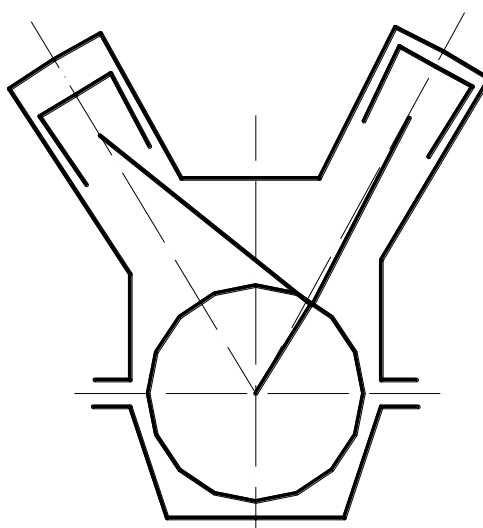
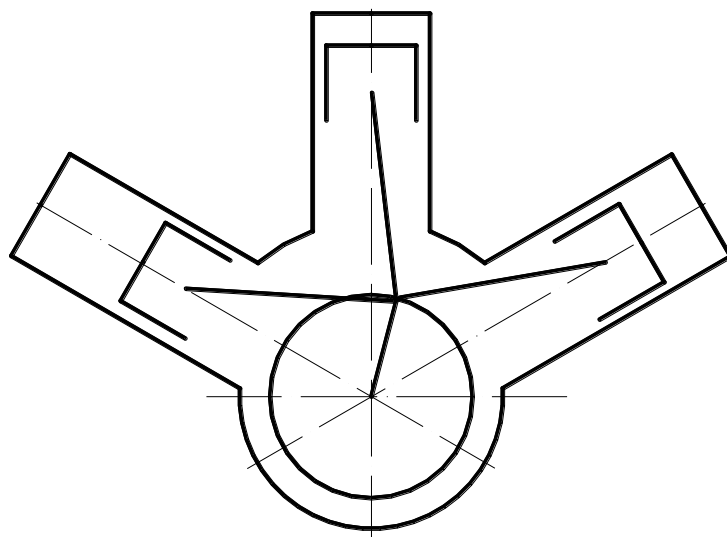
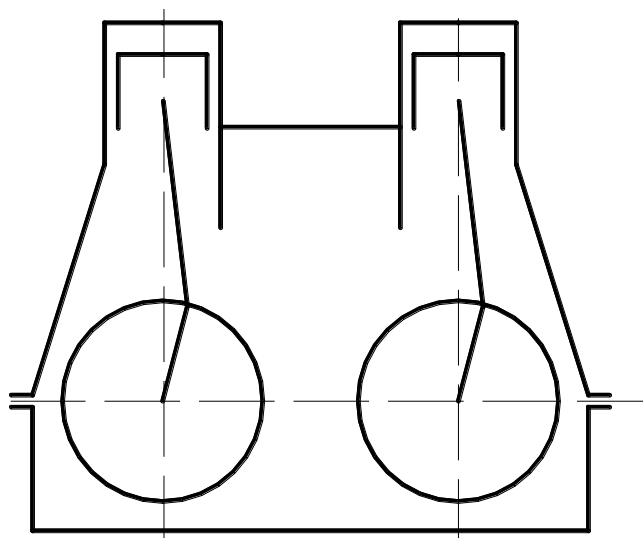
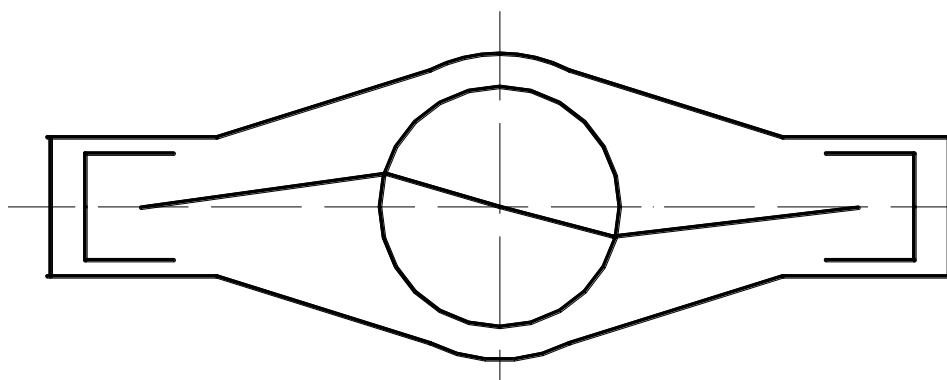

Fig.3
Fig.4
Fig.5
Fig.6
- Multiradials - fork Fig.3, fan-shaped Fig.4, two-side Fig.5, lying Fig.6